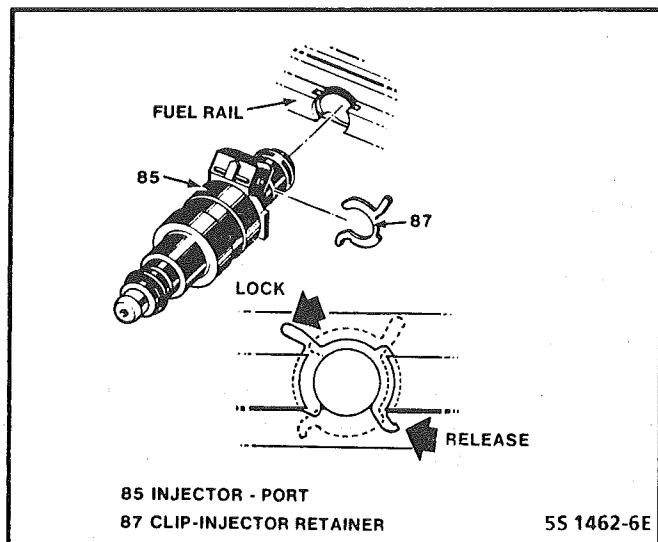

Figure C2-13 Port Injector with Injector Retainer Clip
Each port injector is located and held in position by a retainer clip that must be rotated to release and/or lock the injector in place, as shown in Figure C2-13.
2. Injectors to fuel rail and pressure regulator assembly (11).
3. Rotate injector retainer clips (87) to locking position (Figure C2-13).